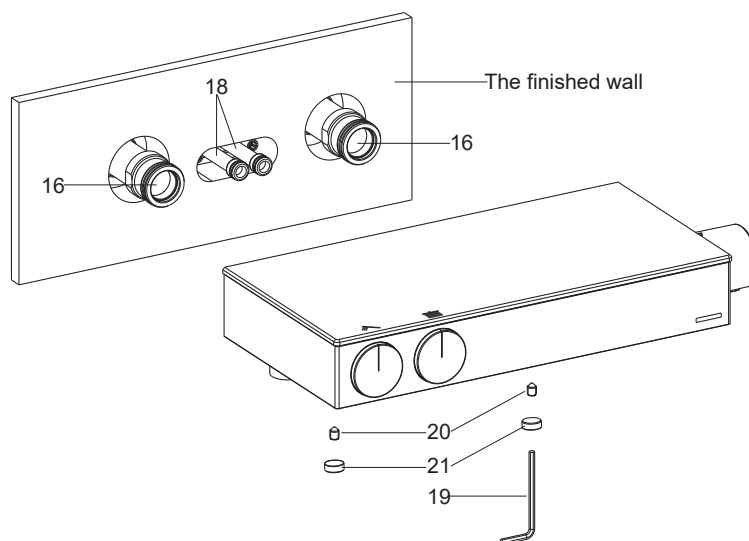

Fig. 6
As **Fig. 6** shown, adjust two screws(20) with 3mm hex wrench(19). Install the faucet body to the connections(16) and showerhead tubes(18) until it is against the finished wall. Tighten two screws(20) with 3mm hex wrench. Press the plugs(21) into the faucet.